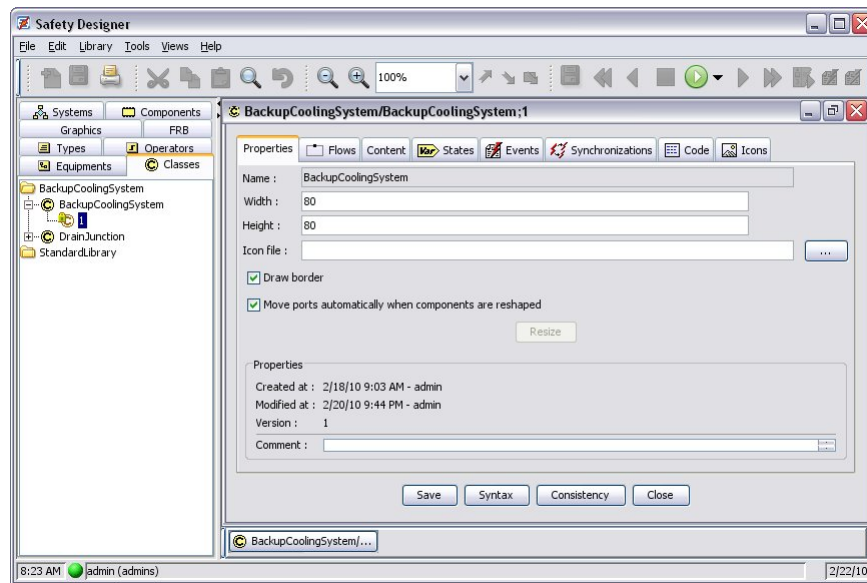

Figure 19: Model Class Editor
4. Access the Model class tab (Figure 19: Model Class Editor)